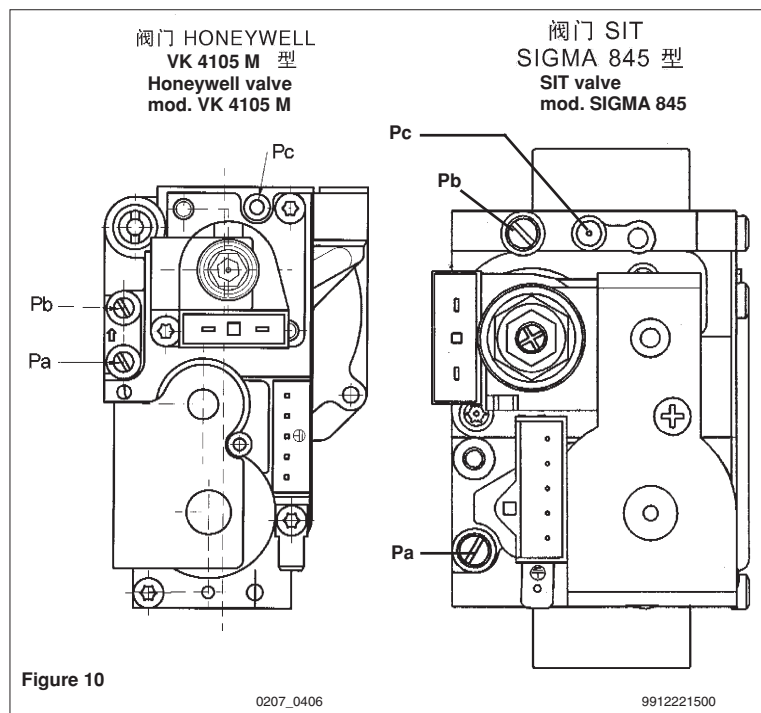

Figure 10
将压差计的正压测点连接到燃气阀上的压力测点（Pb）（图10），对于密封型的燃烧室在压差计的负压测点上接一个“T”型接口，“T”型接口另两头，一头接燃烧室调节测压点，一头接燃气阀调节测压点（Pc）。（同效的测量方法是直接将燃烧室密封板打开，将压力计与测量点（Pb）连接）。当你用不同的方法测量燃烧器压力时，可能会得到不同的结果，这是由于在密封的燃烧室中风机的转动可能会引起压力的降低。
The procedure for calibrating the pressure regulator may vary according to the type of gas valve fitted (HONEYWELL or SIT; see figure 10).
- connect the positive pressure test point of a differential (possibly water-operated) manometer to the gas valve pressure test point (Pb) (Figure 10); connect, for sealed chamber models only, the negative pressure test point of the manometer to a “T” fitting in order to join the boiler adjusting outlet, the gas valve adjusting outlet (Pc) and the manometer. (The same measurement can be carried out by connecting the manometer to the pressure test point (Pb) after removing the sealed chamber front panel);
- 检查锅炉进压是否为入口气阀压力测试点(帕)(见图10)(G.30是30毫巴，G.31是37毫巴，天然气是20毫巴)。
- check that boiler feeding dynamic pressure, as measured at the inlet gas valve pressure test point (Pa) (Figure 10) is correct (30 mbar for G.30, 37 mbar for G.31, 20 mbar for natural gas);